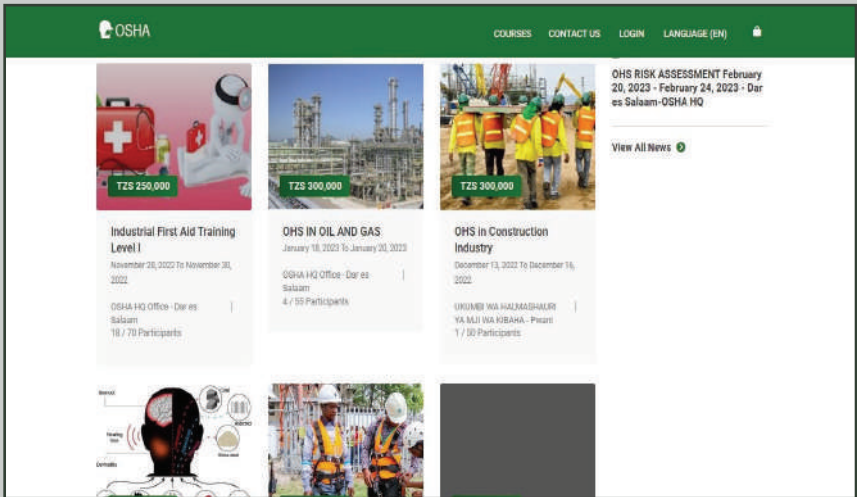

Figure 35: Course details preview page
- ii) Applicant choose desired course shown on Figure 35; and click on the course to see further details; click on Apply Now then click on REQUEST CONTROL# to receive control number for selected course, settle payment and attend training.